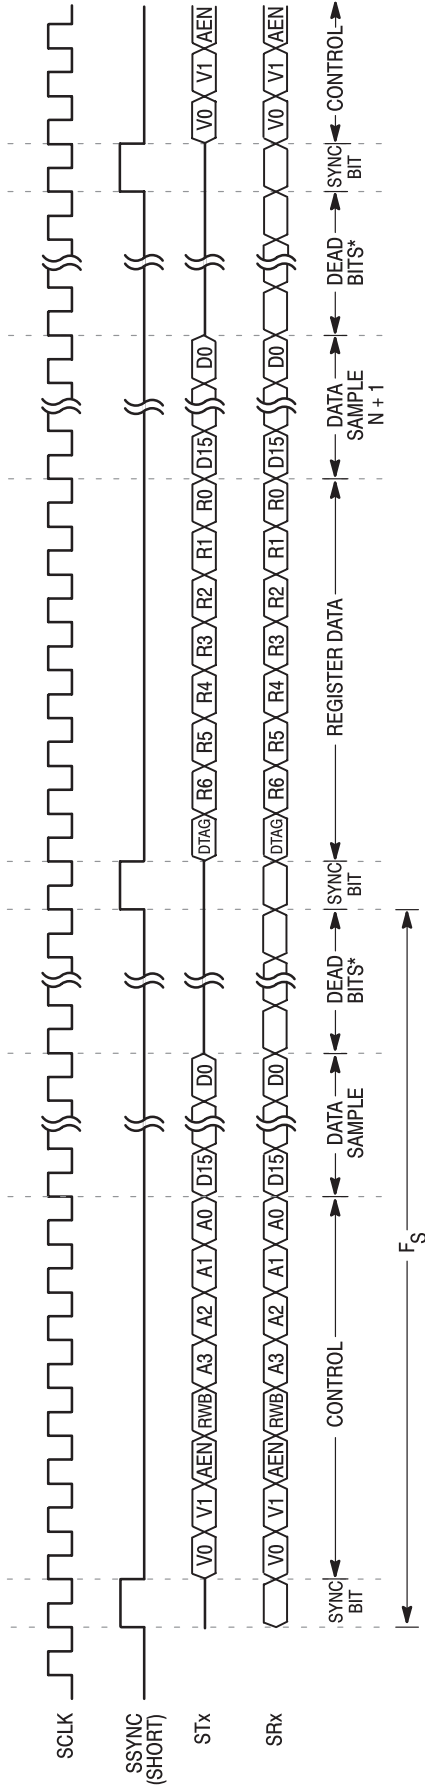

Figure 6. Dual SSI 24-Bit Format
**Data Size — 16-Bit Mode and 24-Bit Mode:** The data size can be selected by the state of the pin SSIDS. When the pin is tied low, the 24-bit data format is effective. In 24-bit operation, the control data and register data (bits 23:16) alternately precede the data sample (bits 15:0) in each frame. See Figures 6 and 8. When this pin is set high, the serial data format is adjusted to accommodate 16-bit data. In 16-bit operation, the control data and register data are coupled into one frame, and the data sample is contained in a separate frame. See Figures 7 and 9. The ordering of the data words depends on whether the device is in Dual or Single SSI mode.
The serial port is used to transport three classes of data — the control word, the register data, and the data sample. The control word contains eight bits that are used for register addressing, validity, and synchronization. The register data contains eight bits, one of which is a synchronization bit. The data sample is composed of sixteen bits and contains the data to and from the codec. The serial port data format varies depending on which mode the device is operating in. Diagrams of each mode can be seen in Figures 6, 7, 8, and 9.
Figure 6 describes the data format for 24-Bit Dual SSI mode. The STx channel control field of frame 'N' always echoes the control field of the SRx channel with a delay equal to the number of frames in one repetition sequence. For 24-bit dual mode, this repetition is equal to two frames, and the sampling period is one frame. A control word issued in frame 'N' will be echoed in frame 'N+2'. A data read requested through control channel at frame 'N' will therefore be available in frame 'N+3'. (Note: This only applies for 24-bit dual mode.)